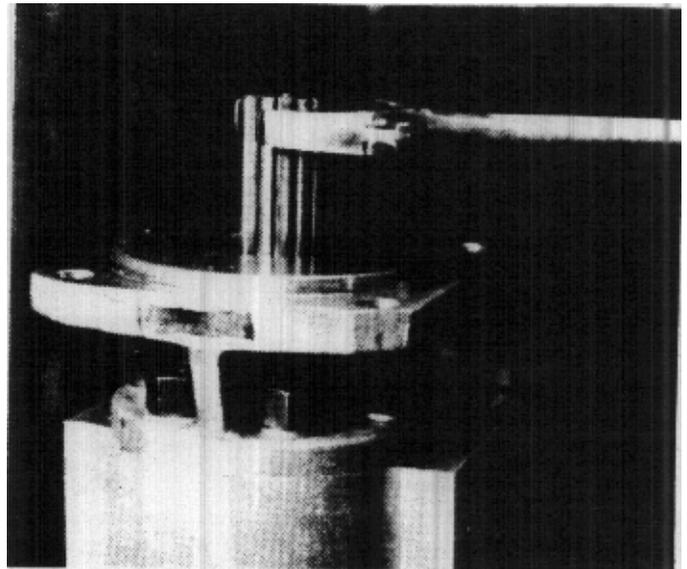

FIGURE 106
52. Use 10" wrench and check to see if the drive shaft will turn freely. The shaft will be tight but should turn with a maximum of 5 to 10 lb/ft. of torque applied. (Fig. 106)